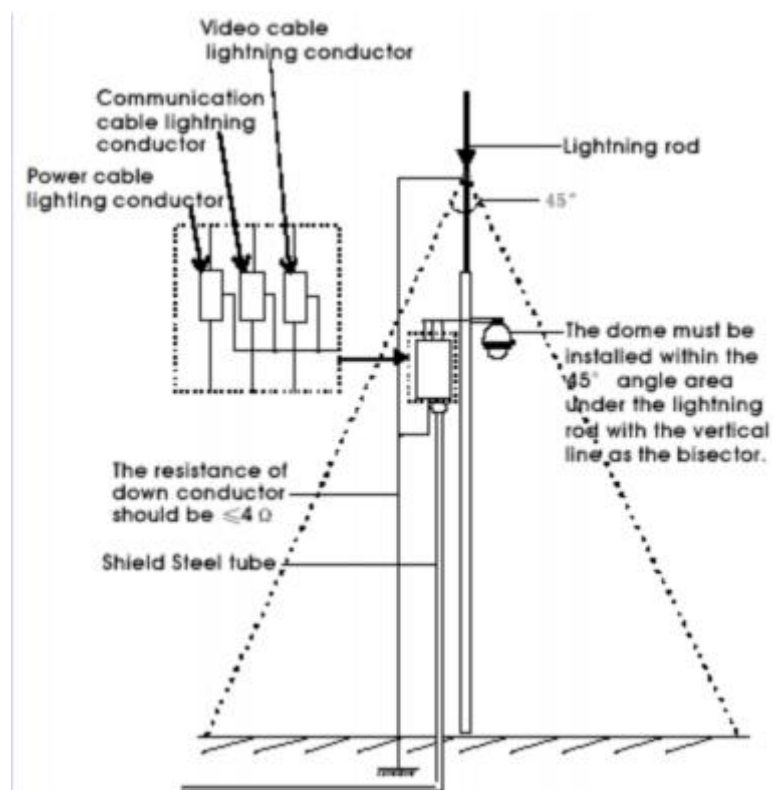

Figure 26
- The system must be grounded with equal potentials. The earth ground connection must satisfy anti-interference and electrical safety requirements and must not short circuit the high voltage electricity network. When the system is grounded separately, the resistance of the down conductor should be  $\leq 4\Omega$  and the sectional size of the down conductor should be  $\leq 25\text{mm}^2$  (refer to Fig 26).